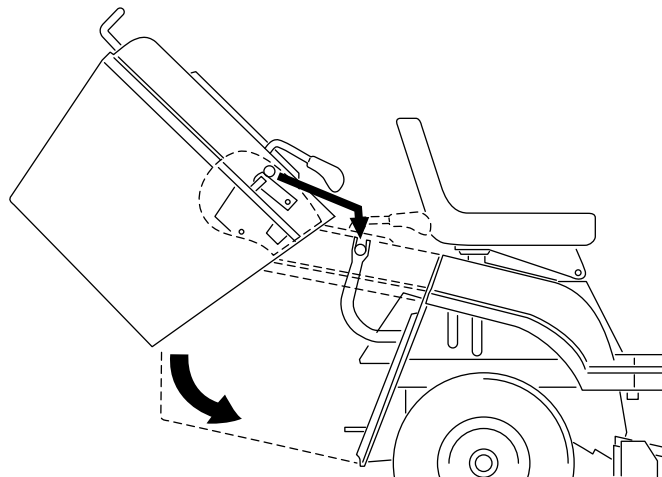

Figure 37
1. Use 2 hands to tip the grass collector forward (Figure 37).
2. Tip the collector forward approximately 40 degrees and slide it onto the 2 support brackets at the rear of the machine (Figure 37).